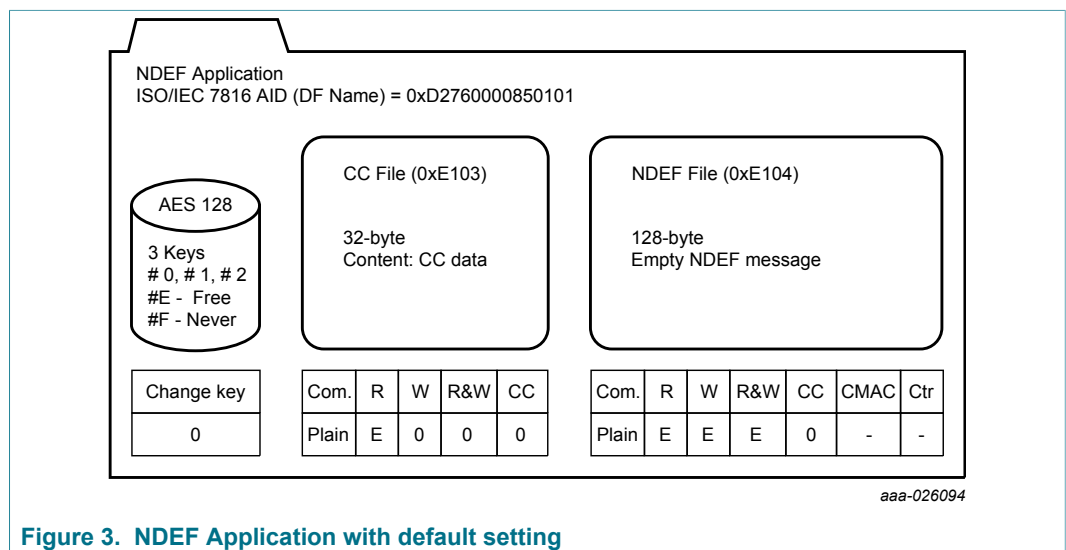

Figure 3. NDEF Application with default setting
The file system is according to NFC Forum-TS-Type-4-Tag\_2.0 NFC [5]. The application structure, see Figure 3 of NTAG 413 DNA is fixed and optimized to fulfil the requirements of the generic and secure NFC applications. In the single application, there is a set of keys and different access link to those keys can be provided by file settings. Note in the file setting "CC" stands for change configuration whereas the 32-byte file is called CC (Capability Container) file
The capability container (CC) file is initialized with the following data field: "000F20010000FF0406E10400800" present in "INITIALIZED" state. Date structure of the CC file is explained in [5]. It can be updated by authenticating with key number 0. The default access right is set as in Figure 3, write (w), Read &Write (R&W) and change key can be set to any other value or "F" to make this file read only. To be NDEF complaint the read (R) access shall remain free (E). One-byte CC file ID is 0x01, is to be used as file number/ ID for the commands with class byte 0x90, if required.